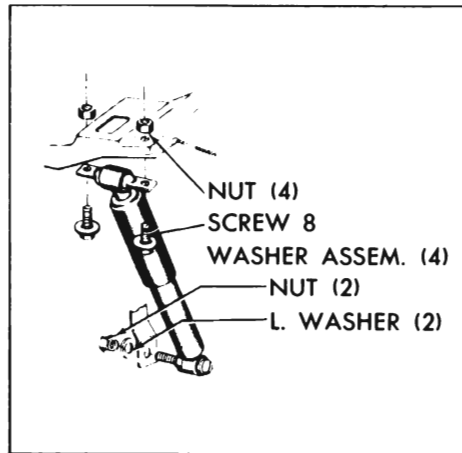

Figure 7-28—Rear Shock Absorber Installation
2. Loosely attach shock to both mounting points. Torque upper bolts to 12-24 ft. lbs. and the lower hex nut to 30-60 ft. lbs. See Figure 7-28.